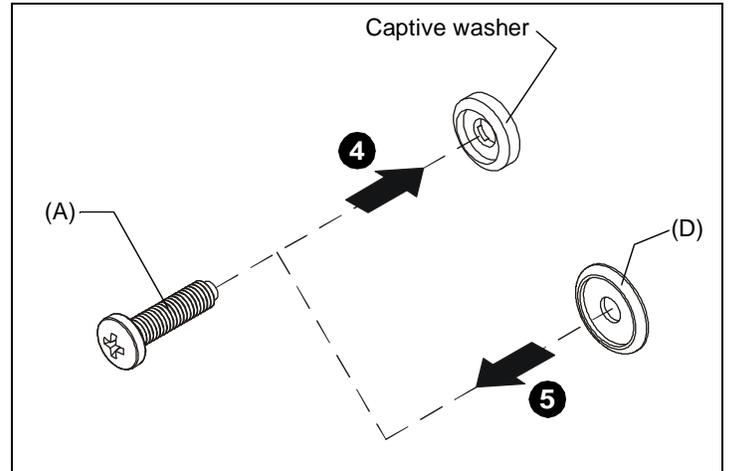

Figure 2
5. Install retention washers (D) onto #10-32 x 3/4" Phillips screws (A). (See Figure 2)
4. Remove captive washers from #10-32 x 3/4" Phillips screws (A). (See Figure 2)